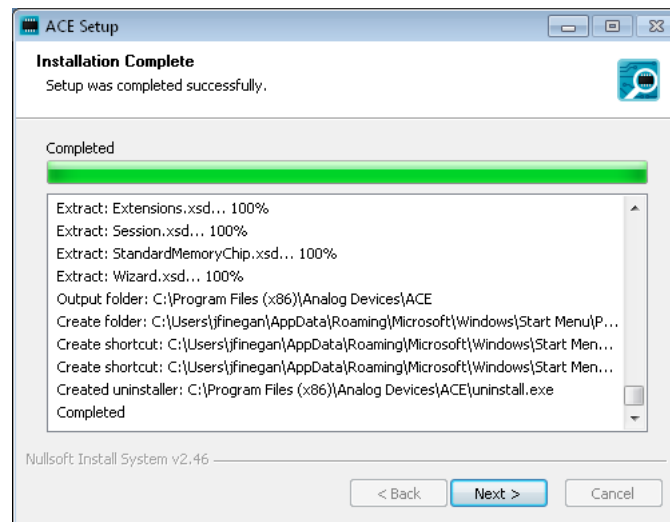

Figure 2-6: ACE Setup Wizard Step 6
Step 6: Installation is run, Figure 2-6. Click “Next” when the installation is complete.